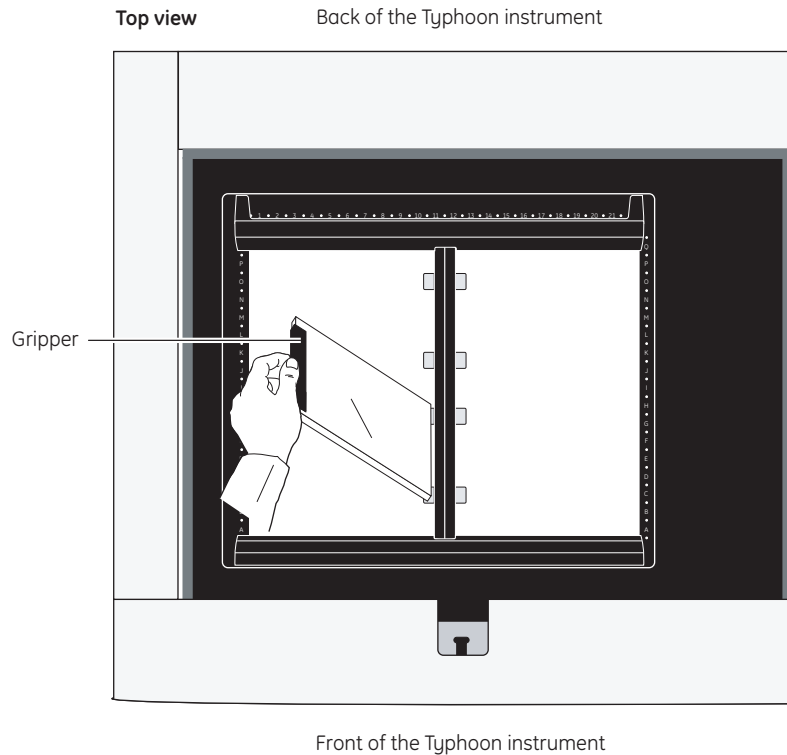

Fig 8-9. Placing a sandwich gel with attached gripper on the SE600 gel alignment guide.
- 7 Holding the sandwich gel by the gripper and one edge, place the edge of the sandwich gel without the gripper on the edge of the center gel alignment guide (fig 8-9). Make sure the sandwich gel rests on the two spacers.